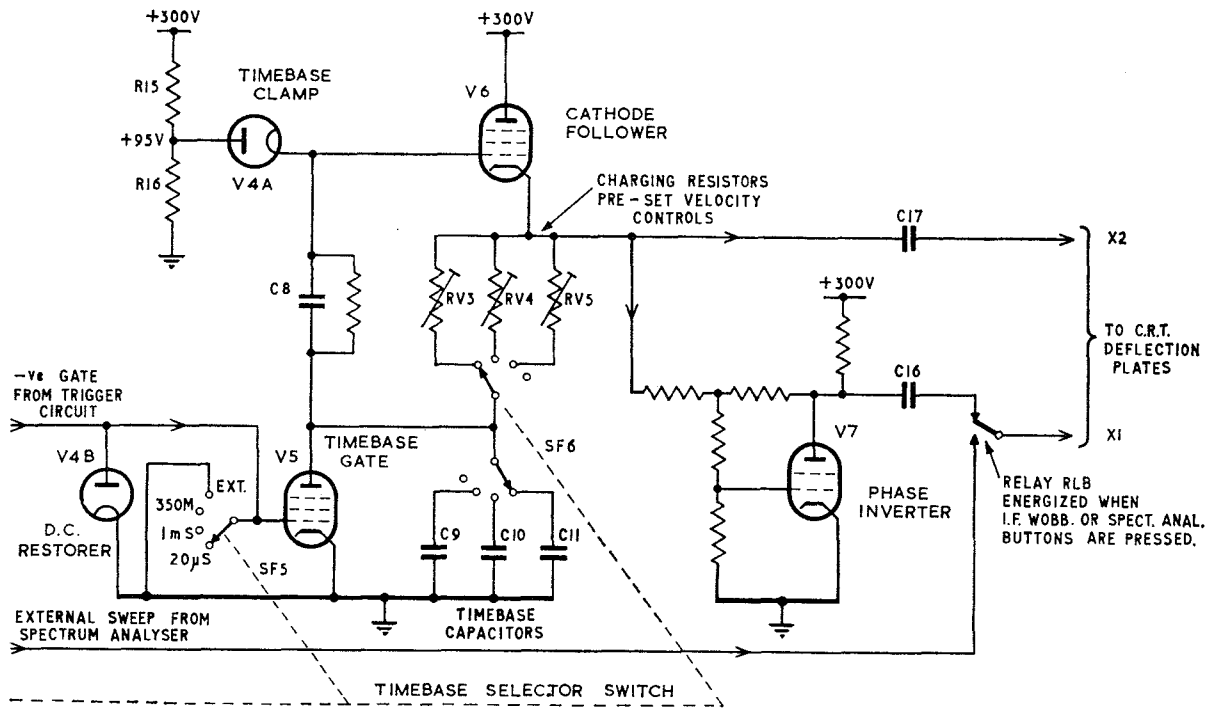

Fig. 4. Simplified circuit of timebase generator
23. The timebase sweep waveform is generated by a boot-strap cathode follower circuit shown in simplified form in fig. 4. The grid of the cathode follower valve V6 is normally clamped at a positive potential of 95V (derived from the potentiometer network R15, R16) by a diode V4a; the cathode current of V6 being taken by the gate valve V5. The timebase capacitor C9, C10 or C11 is thus initially discharged. When the negative-going gate waveform from V3b anode drives the grid of V5 beyond cut-off, the selected capacitor commences to charge towards h.t. potential at a rate determined by the setting of the corresponding preset velocity control RV3, RV4 or RV5. The rise in